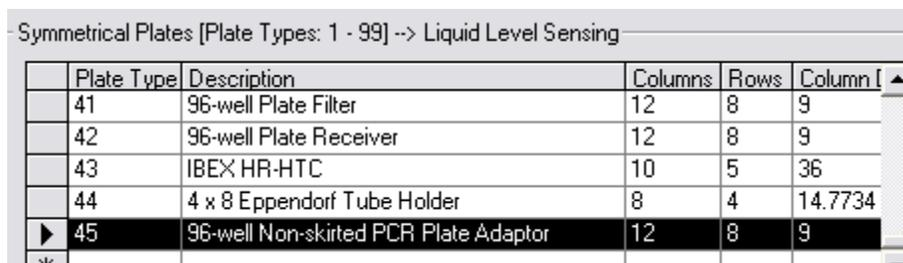

Figure 9-72 Testing Default Positions under Aurora Station Settings Plate Types Tab
Step 1: Click on plate type number to test. (*Figure 9-72 Testing Default Positions under Aurora Station Settings Plate Types Tab*)